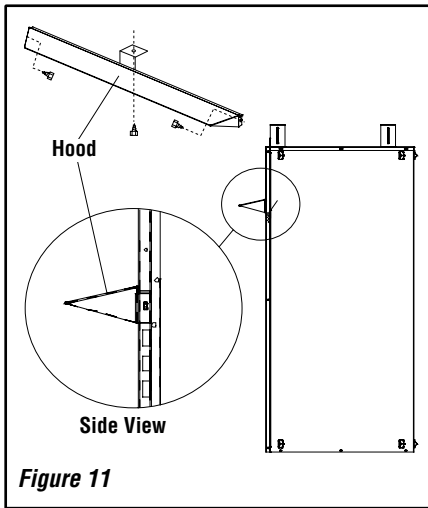

Figure 11
**NOTE:** A hood comes standard and is required for model EWVF36. The factory-supplied hood must be installed on the firebox for safe operation for model EWVF36 in all installations. See Figure 11.
- Step 2.** Align the hood with the holes in the side frames as shown in Figure 11. Install three screws as shown in Figure 11. Make sure hood is level and secure.